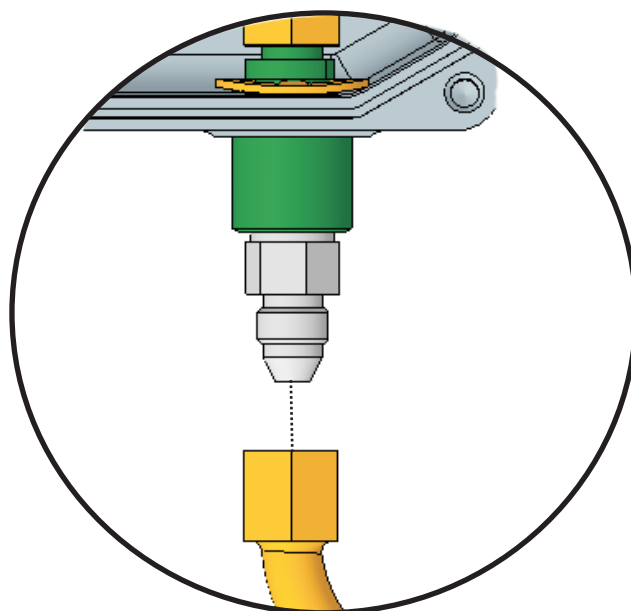

Figure 4-84. Fitting on Outside of XV Control System
8. After ensuring there is no leakage, loosen the swivel fitting located at the bottom right side of the XV Control System (see Figure 4-84). Allow the pressure to vent slowly. When the pressure is completely vented, disconnect the fitting and remove the cover.